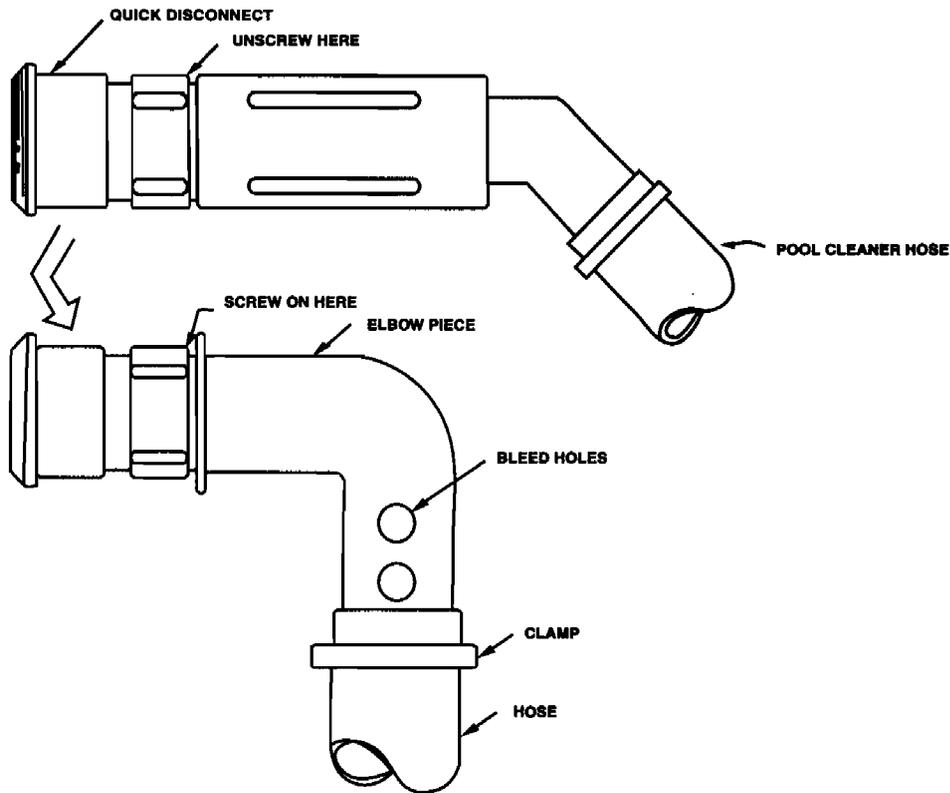

FIGURE 7
- Pool cleaner quick disconnect fittings. Refer to Figure 7. Use installation **Instruction 4, page 6** for this type inlet.
Height adjustment is achieved by covering more or less of the bleed holes (Fig. 7) on your Elbow Piece (8) with the hose (4). The more holes covered, the higher the fountain and vice versa.
Height adjustment is achieved by covering more or less of the bleed holes (Fig. 7) on your Elbow Piece (8) with the hose (4). The more holes covered, the higher the fountain and vice versa. If your fountain is still not as high as desired, use the threaded plug (12) to plug one of the other inlets.
2. Unscrew the end of your pool cleaner hose fitting as indicated in Figure 7. Screw the quick disconnect fitting on to the threaded end of the Elbow Piece (7). This is your inlet adapter.
3. Refer to Figure 1. Uncoil the hose (4) and remove all twists. Using clamps (16), clamp one end of the hose to the back side of the fountainhead (1 or 3) and the other end to the inlet adapter from step 2. Cover one set of bleed holes with the hose (Fig. 7). To tighten clamp, grasp "tabs" between thumb and forefinger and squeeze. Tighten securely with a pair of pliers. To open the clamp, grip one "tab" of the clamp with pliers and twist loose.
4. Using the tie wrap (15), LOOSELY attach the anchor (5) to the hose (4). The anchor (5) should be attached to the hose (4) at a point as deep as the water plus approximately two feet. You will have to estimate what the water depth is where you want the fountain and add two feet. **CAUTION: DO NOT CONSTRICT THE HOSE BY TIGHTENING THE TIE WRAP (15) TOO TIGHT.**
6. Place the fountain assembly into the pool. Position the fountain in the desired location being careful not to crimp the hose (4)
Height adjustment is achieved by covering more or less of the bleed holes (Fig. 7) on your Elbow Piece (7) with the hose (4). The more holes covered, the higher the fountain and vice versa.